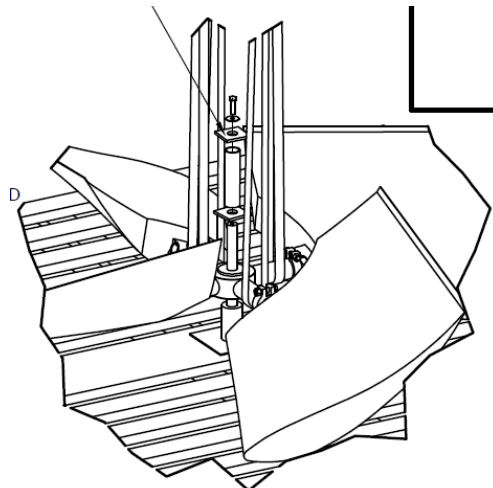

Figure 39: Shipping mount hardware details
3. Remove the bolt, PVC spacer, and plywood spacers from the shipping mount per **Figure 39**.